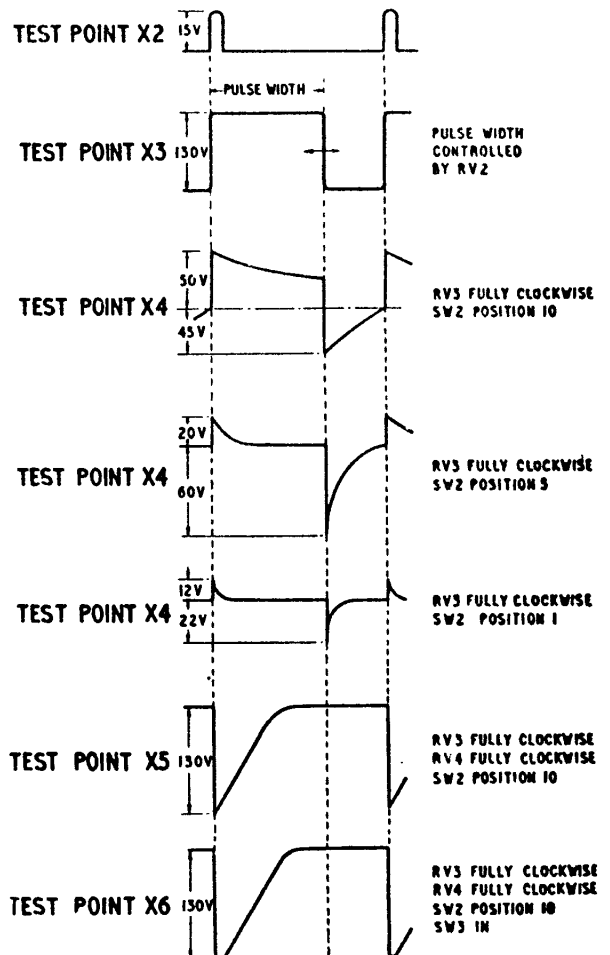

Fig. 1. Waveforms
Waveforms	Fig. 1
4. Six monitoring points (X1 to X6) are provided. The correct monitor pictures for the more common positions of the front panel controls are shown in fig. 1. Other tests which may be made are :—